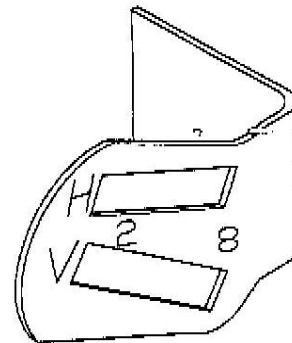

FIG. 4 - Weight Adjustment Arm
DAMPER CALIBRATION - This side calibration weight should be adjusted to maintain the manufacturer's specified draft. **Note the rear weight is not adjustable.** Be sure to confirm that the arm of the blade is parallel to the outside of the pipe. While confirming this please note that there should also be approximately a 1/4" gap between the blade arm and the outside of the pipe. Refer to the installation manual supplied with your appliance for specific combustion setting and chamber draft data. A manometer should be used to adjust the damper to the appliance specifications. To adjust the damper, first determine whether the damper is to be adjusted in a (H) horizontal or (V) vertical installation. Attach the weight, to the outside, in the correct slot. See Figure 4. Now move the weight along the correct slot until the desired draft value is obtained. Moving the weight forward toward the 2 position will decrease the combustion chamber draft, moving the weight back toward the 8 position will increase the draft. See Figure 4. Move the weight along the correct slot until the desired draft value is obtained. This procedure may take several trials before the correct weight position has been determined that will provide the desired draft value.